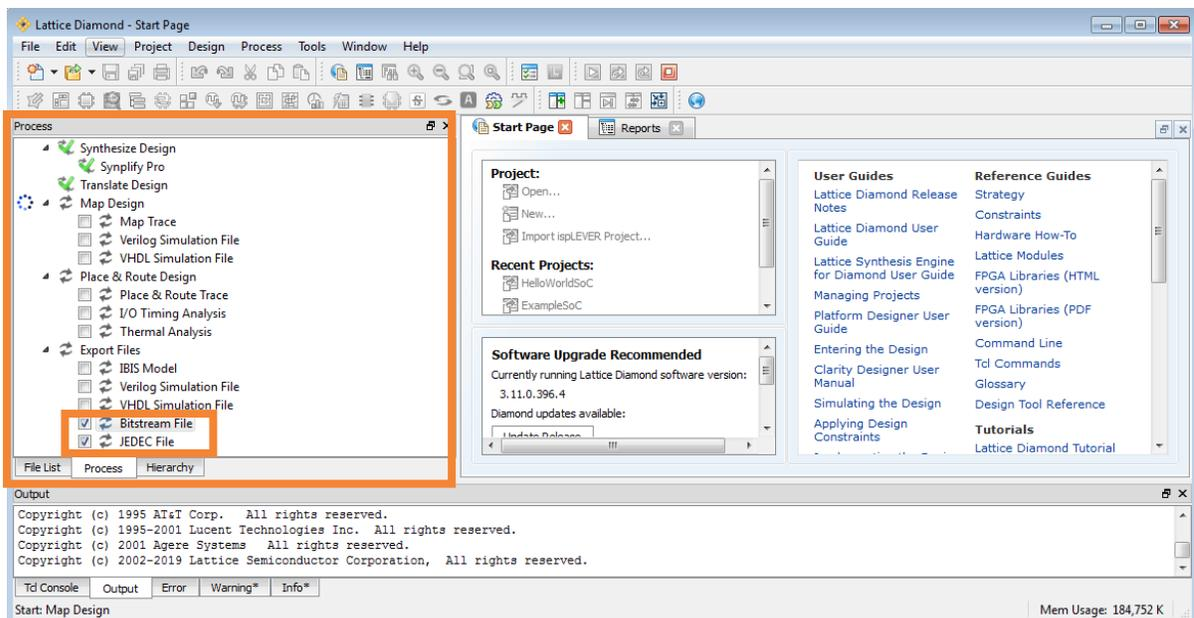

Figure 4.3. Generate Programming File
3. Switch to **Process** view of the Diamond project and make sure **Bitstream File** or **JEDEC File** is checked in the **Export Files** section (Figure 4.3).